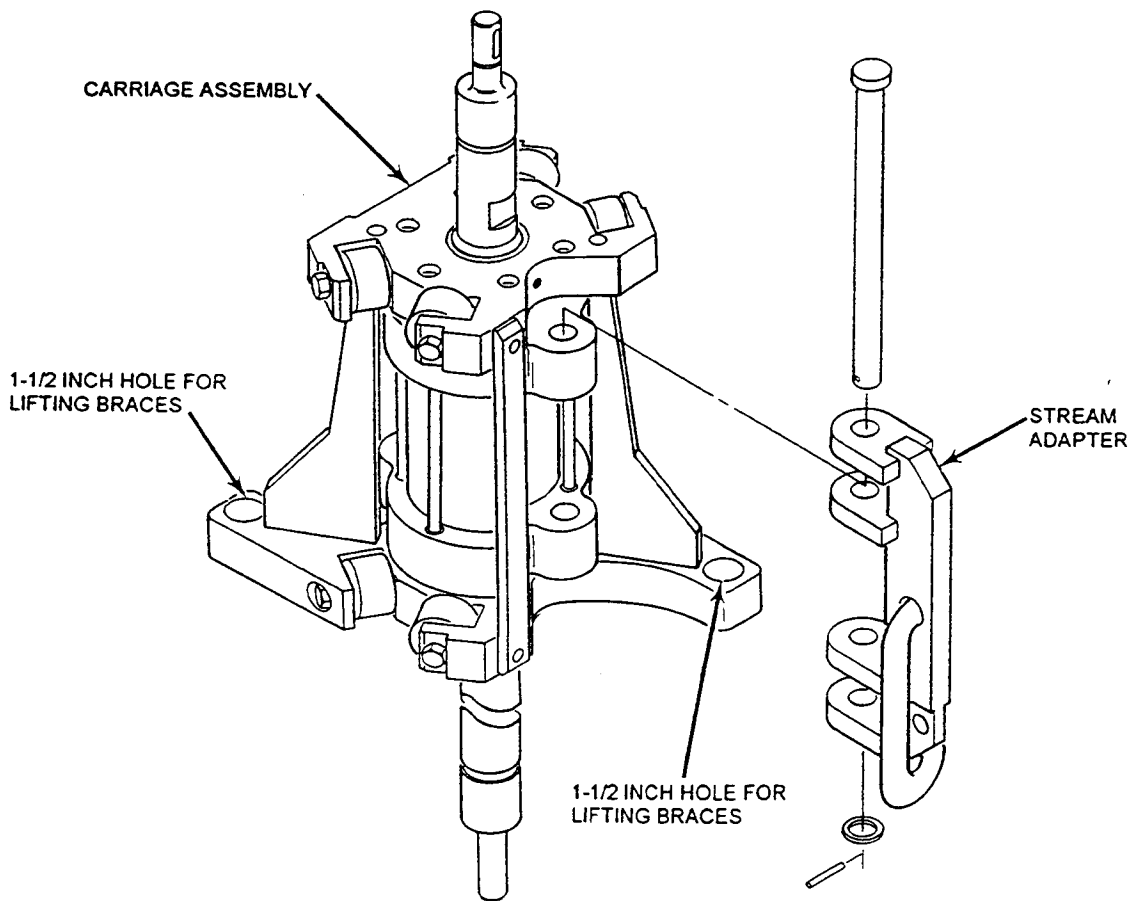

Figure 2-4. Carriage Assembly Stowage (Model CR-12 Shown)
3. Insert two lifting braces in trunk sockets. Position lifting brace tips to engage 1-1/2 inch diameter holes in carriage lower body (figure 2-4). Using KINGPOST UP JOG switch, ease sliding padeye down until carriage holes engage lifting braces.
3-3.6.1 Carriage Assembly (Retractable Units). The carriage assembly is similar to that described in paragraph 3-3.6 except that the lower plate is larger and has two holes which fit into the carriage support pins in the trunk and also accommodate the upper ends of two lifting braces during kingpost erection and retraction (figure 2-4). The two braces, which fit between the upper and lower plates, strengthen the carriage assembly enabling it to support the kingpost during erection/retraction operations. The STREAM adapter can be mounted to receive from either port or starboard. There is a single cam on each side of the carriage assembly to actuate the two port side